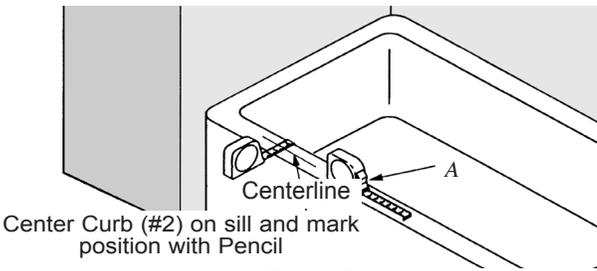

Figure 2
- C. Lay the Curb (#2) on the shower sill with the sloping face of the Track towards the inside of the shower. Center the Curb (#2) on the shower sill, and secure it in position with strips of Duct Tape. Mark the position on the sill with a Pencil (See Figure 2).